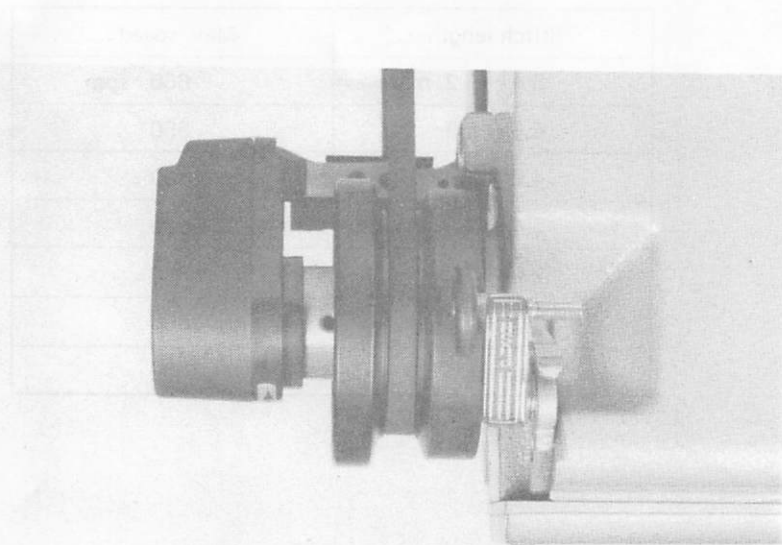

Fig. 18
### 8.1 Adjusting the Needle Bar Stop (UP) Position (Fig. 18)
1. Draw out the synchronizer cover toward the cable (See Fig. 18).